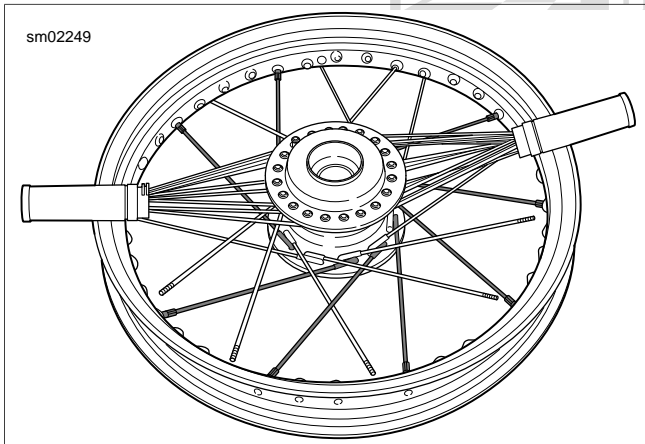

Figure 2-34. Completed Spokes: Bottom Flange Outer
- b. See Figure 2-34. Once you have completed lacing the bottom row of outer spokes (short head) double check for three empty holes in between each spoke.